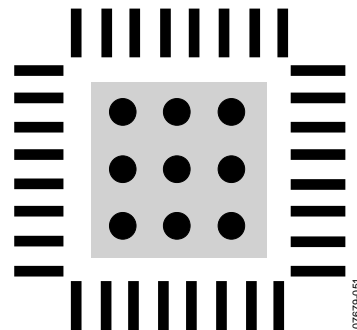

Figure 65. Exposed Pad Layout Example, Top View
- Vias should be placed to connect all layers of copper, allowing for efficient heat and energy conductivity. For an example, see Figure 65, which has nine vias arranged in a 3 inch \times 3 inch grid in the pad area.